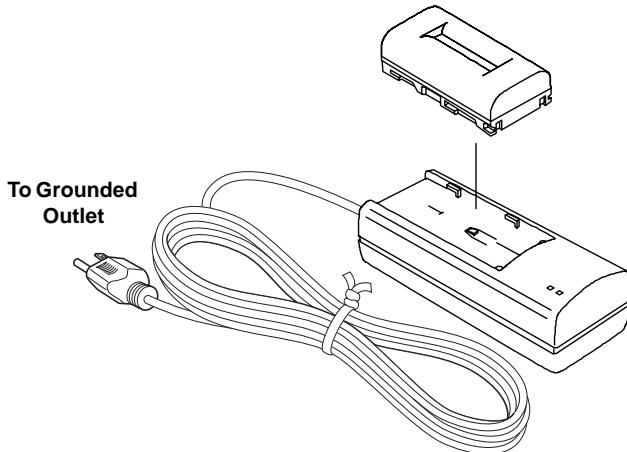

Figure 2-3. Charging the Battery in the Charger
**To charge the battery using the optional charger,** (Figure 2-3) remove the battery from the GMS-2 (see “Installing the Battery” on page 2-4 for details) and slide it onto the charger. Plug the charger in to a grounded outlet.